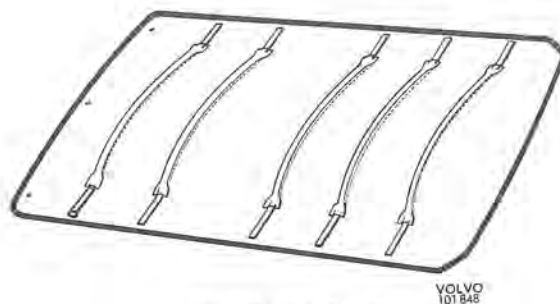

Fig. 8-44. Headlining
5. Fit the stretchers in the new headlining. Make sure that they are provided with rubber caps at the ends as shown in Fig. 8-44.